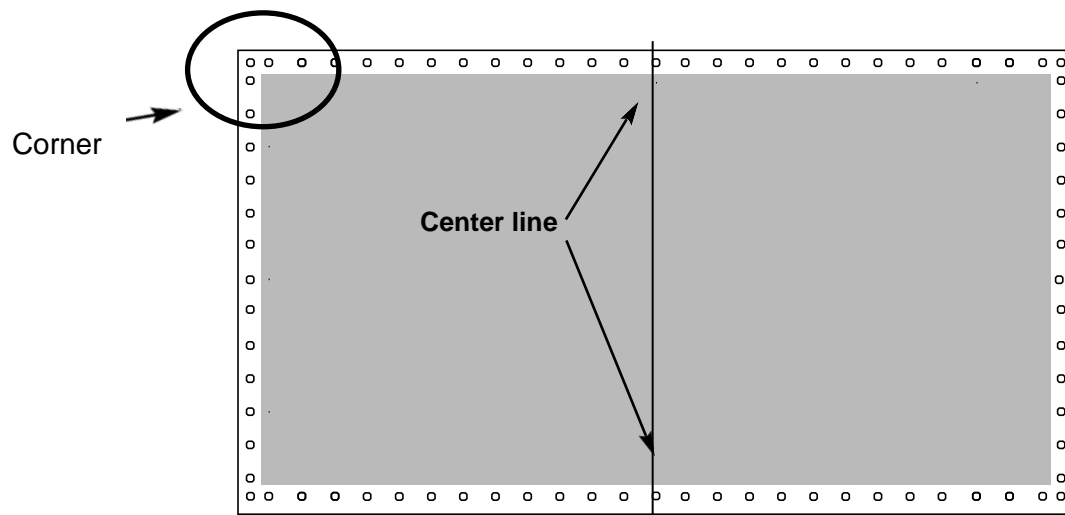

Figure 11. Screen, Audience Viewing Side
- ▶ Start at the top left corner, using the techniques described below (see Figure 11).
- ▶ Continue attaching S-hooks to grommets along the top from the top left to the center top. The screen centerline is marked with a red grommet at the frame center (see Figures 11 and 12).